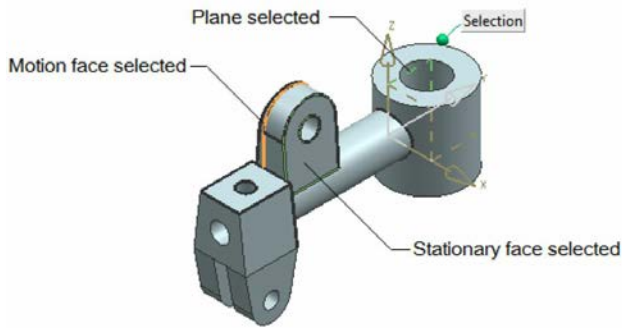

Figure 13-126 Entities selected to align the opposite faces of the single flange
- Align the opposite face of the single flange using the **Make Symmetric** tool, refer to Figure 13-126.
2. Select the opposite face of the single flange as the motion face, refer to Figure 13-126. The **Plane** button is chosen automatically in the **Symmetry Plane** rollout. Select the middle plane of the component, refer to Figure 13-126; the **Face** button is chosen automatically in the **Stationary Face** rollout. Select another face of the single flange as the stationary face, refer to Figure 13-126; the preview of the resultant model is displayed.